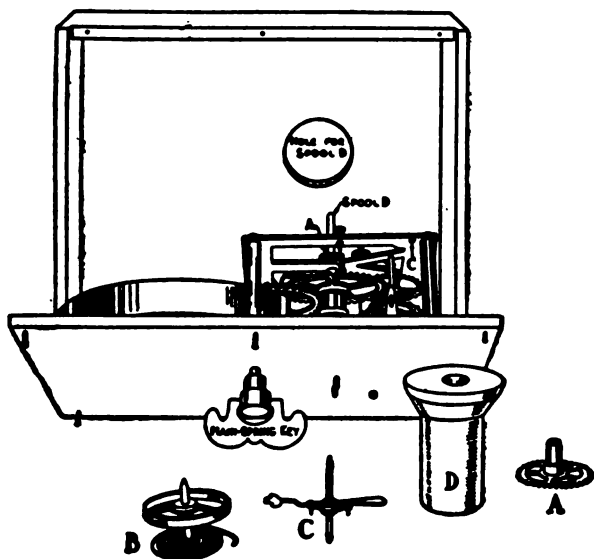

FIG. 139. — How the Clockwork Motor is Fastened to the Cigar-Box Cover.
To Prepare the Clockwork for use, remove it from its case, detach the hands and face, and pry off the small wheel pivoted directly under the hands; this wheel is shown at *A* in Fig. 139. Remove also the *balance-wheel*
*B* (Fig. 139) and the *lever C* pivoted next to it, to increase the speed of the remaining wheels.
holes through the cover with a gimlet for the *pivot* ends on the back of the works to set into. Remove the lower flange from a spool (*D*, Fig. 139) and fasten the spool on to the central pivot of the clockwork in the position formerly occupied by wheel *A*. The hole in the spool will be too large for the pivot and must be filled up with sealing-wax. To do this, hold a piece of sealing-wax above the spool and melt it with a lighted match, allowing it to drip into the hole until the latter is about half full, then press the wax down with the end of a match until it is compact, smooth it off on the bottom of the spool, and make a dent in it with a pencil to indicate the exact center of the hole. Heat the end of the pivot with a lighted match, and press it into the dent in the wax, being careful in doing so to get the spool straight upon the pivot. Cut a hole through the bottom of the cigar box belonging to the cover to which you have attached the works, for spool *D* to project through (Fig. 139).
**To Operate the Merry-go-round.** The key by which the mainspring is wound up is shown screwed in place on the under side of the cigar-box cover in Fig. 139. While winding the mainspring, it will be necessary to have some
The Clockwork Motor for the Ferris wheel is fastened to the cover of a cigar box just as that for the merry-go-round was fastened (Fig. 139), but the length of the box is cut down as much as the clockwork will allow to make the box as square and compact as possible.
ter of the hole in spool *D* (Fig. 139) is on a level with the spool hub on the opposite support. Nail the supports to a 10-inch by 12-inch board, 8 inches apart, and fasten a cigar box between them for